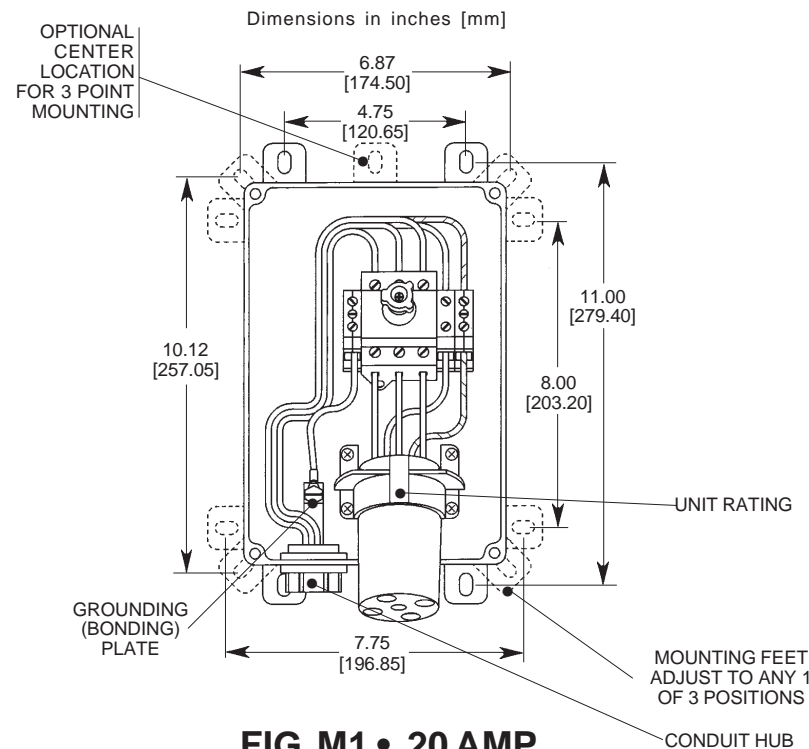

FIG. M1 • 20 AMP
- This enclosure may be mounted for top, bottom or back conduit entrances. Bottom feed is recommended whenever possible, Fig M1. Back feed is permitted in Type 4X applications only. Fig. M3.
- Mounting feet will accept up to 5/16 inch (8 mm) diameter screws (not provided). Mounting pattern is shown in Fig. M1.
- Remove the four (4) cover mounting screws and remove cover. Switch handle must be in "OFF" position to remove cover.